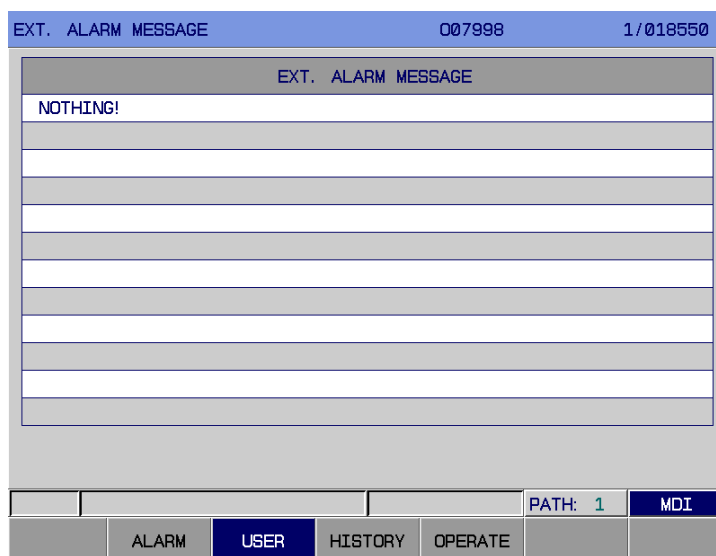

Fig. 3-7-2
2. User page In <ALARM> page, press soft key 【USER】 to enter external alarm page, which is shown in Fig. 3-7-2.